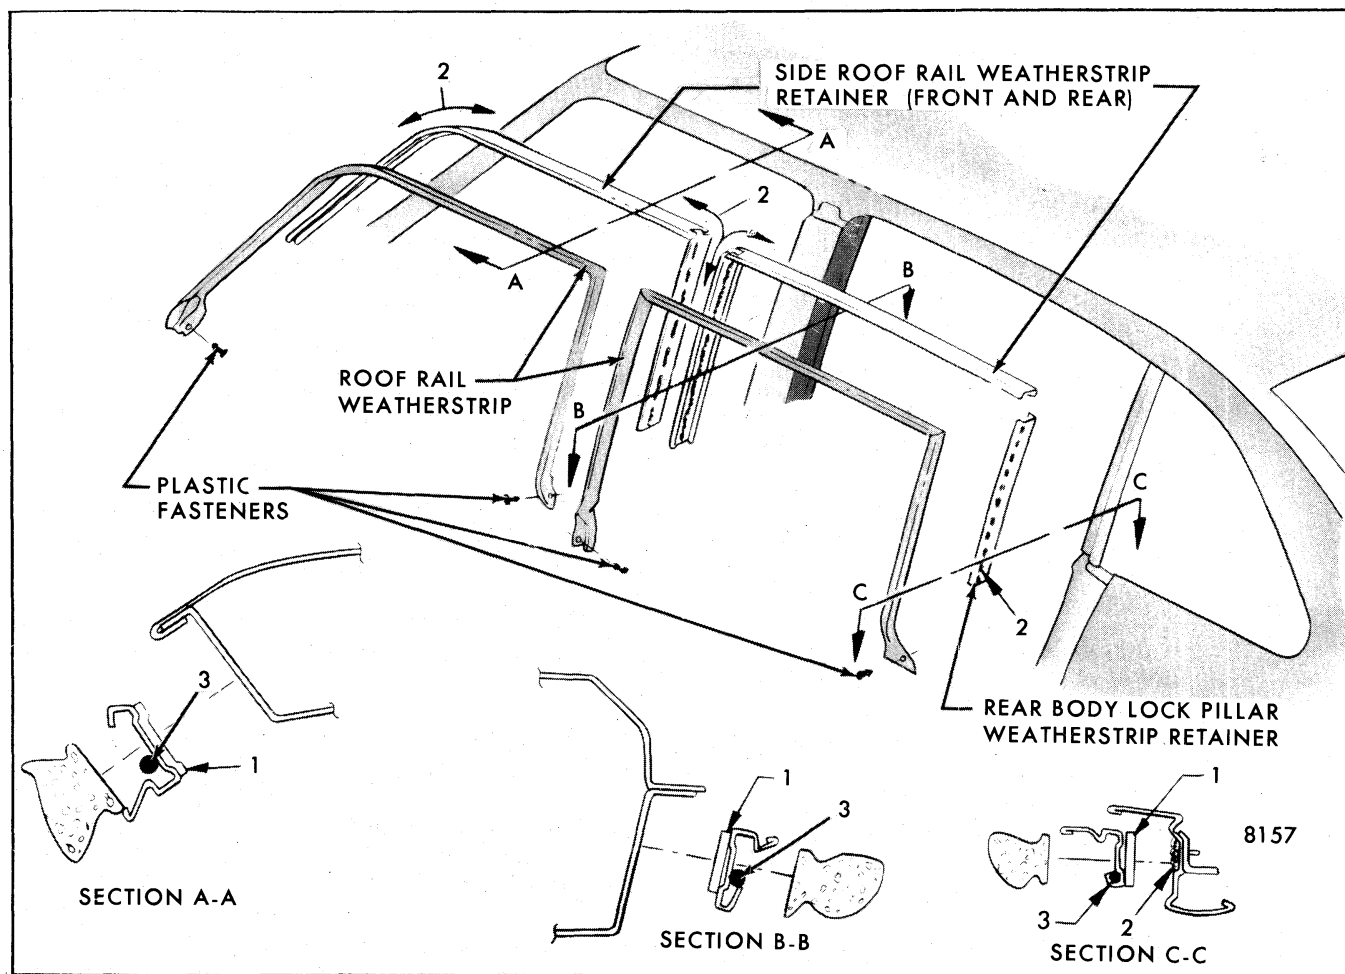

Fig. 5-26-Side Roof Rail Weatherstrip and Weatherstrip Retainer - "A" Four-Door Styles Shown, Other Styles Similar
The side roof rail weatherstrip is sealed to a weatherstrip retainer which, in turn, is sealed to the body by a nitrile foam material (item 1, Fig. 5-26) bonded to
NOTE: Major retainer adjustments will require resealing retainer to body at upper corners of retainer(s) and full length of rear body lock pillar retainer on "A" four-door styles as described in step 2 of weatherstrip installation procedure (item 2, Fig. 5-26).
1. Remove plastic fasteners at front and rear of side roof rail weatherstrip (Fig. 5-26 is typical of all styles at front hinge pillar) with tool J-21104 or equivalent.
2. Apply a continuous bead of a "pumpable" type body caulking compound 4" rearward and 4" down from front and rear upper corner of retainer that mates with side roof rail, and along full length of rear body lock pillar retainer on "A" four-door styles (item 2, Fig. 5-26). Apply bead outboard of attaching screw holes.
4. Apply a continuous bead of "pumpable" sealer to inboard flange of weatherstrip retainer (item 3, Fig. 5-26). Then apply black weatherstrip adhesive to the front and rear end details of the side roof rail weatherstrip.
engage weatherstrip with retainer, inboard lip first; then outboard lip (refer to Sections "A-A", "B-B" and "C-C", Fig. 5-26).